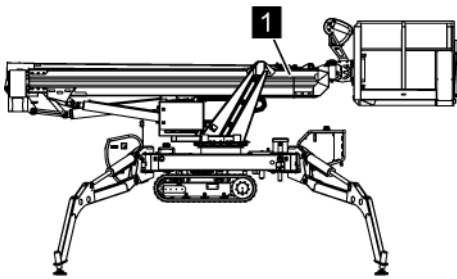

Fig. 225: Raising the upper boom
2. → Raise the upper boom (Fig. 225/1) until it is positioned roughly horizontal (↪ Chapter 6.9 'Operating the machine' on page 106).